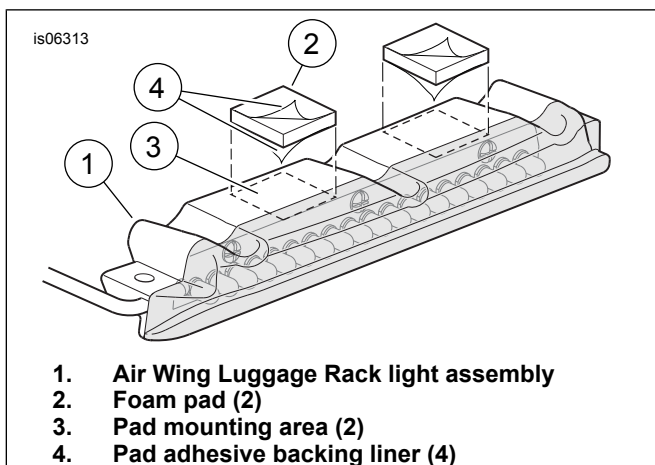

Figure 1. Attach Foam Pads to Light
*See Figure 1. Ambient temperature should be **at least** 16 °C (60 °F) for proper adhesion of the foam adhesive pads (2) to the rack and light.*
7. Clean the foam pad mounting areas (E) on the underside of the rack rear crossbar and (see Figure 1) on the light (3) with a mixture of 50-70% isopropyl alcohol and 30-50% distilled water. Allow to dry thoroughly.
8. See Figure 1. Remove the liner (4) from the adhesive backing on **one side** of a pad (2). Carefully position the pad to the top surface of the light (1), between the clearance notches, and press firmly into place. Repeat with the second pad.
9. Remove the remaining liner from both pads, and install the light to the rear cross bar with two socket head screws (3) and flat washers (4), drawing the wiring out the forward hole (C) as the light is set in place. Tighten the screws securely.